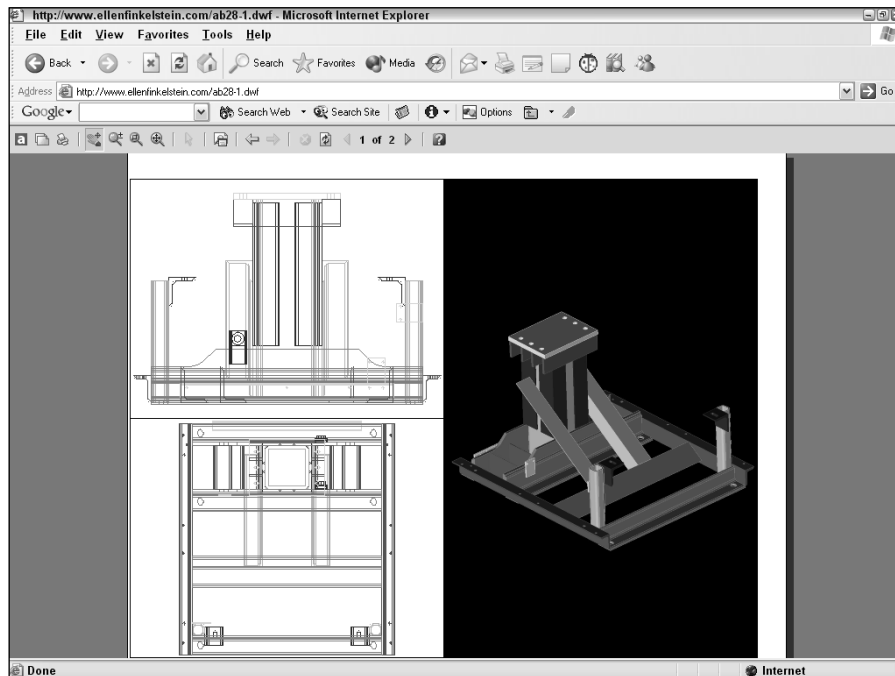

Figure 28-13: You can use the Autodesk DWF Viewer in Internet Explorer.
- ♦ **As an ActiveX component**, Autodesk DWF Viewer functions within Microsoft Internet Explorer, as shown in Figure 28-13. Use the reader within Internet Explorer when you've posted DWF files on a Web site. When you enter the URL in the browser, the DWF file appears. (The ActiveX doesn't work in the Firefox Web browser.)